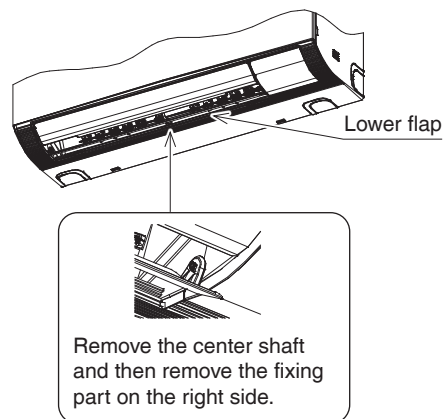

Fig. 6
- Remove the lower flap. (Refer to Fig. 6)